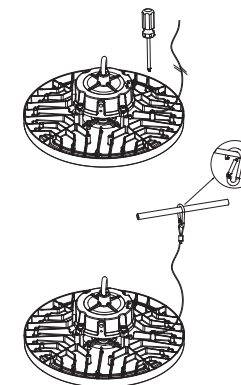

Figure 15
- Step 1. Fix the safety rope on the lamp body with screws. (Figure 15)